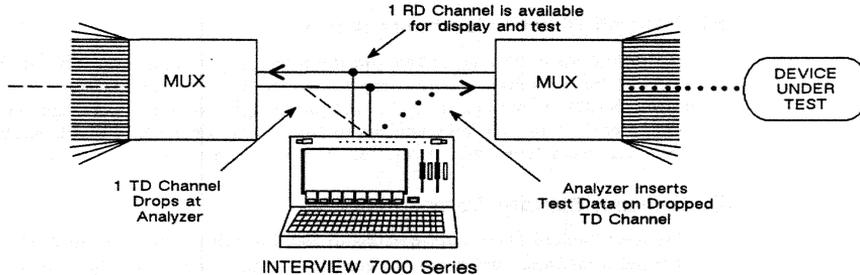

Figure 50-17 The INTERVIEW 7000 Series in drop-and-insert mode.
- Drop-and-insert mode.* This type of transmission (illustrated in Figure 50-17) is useful for testing a single channel over an active G.703 circuit. If the user selects drop-and-insert mode, the INTERVIEW receives all 32 channels in both directions (left to right *and* right to left in Figure 50-17). The transmissions on 32 of the left-to-right channels are passed through outbound. The remaining channel is terminated, and higher-layer test data is inserted into the corresponding outbound channel. All the while, G.703 protocol is maintained at the physical level. The INTERVIEW recalculates the correct CRC for the multiframe. Drop-and-insert mode may be used in either direction, towards DTE or DCE. Statistics are maintained on the selected line. Extra bits, national bits, international bits, and alarms are passed through without change.
The INTERVIEW should be set up to *bridge* the data moving right-to-left in Figure 50-17. See the discussion of **BRIDGED** as a Termination option in Section 50.5(D).